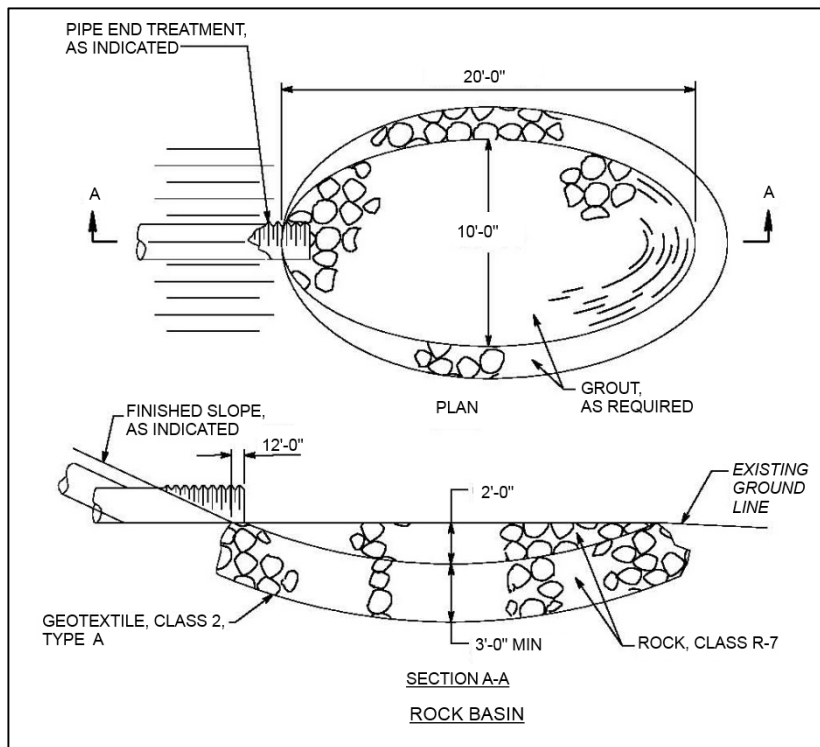

Figure 36: Rock Basin
- Construct as shown in **Figures 36.**